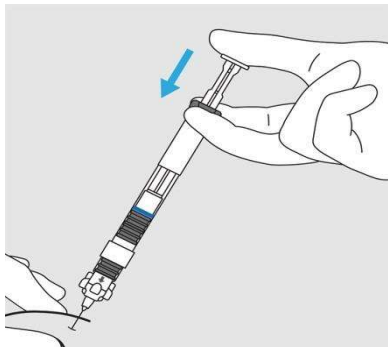

Figure 14: Push plunger to inject
4. Push the plunger all the way down slowly until the entire contents of the syringe have been injected. Pull needle straight out at the same angle it was inserted, then use clean gauze to apply gentle pressure. (Figure 14)